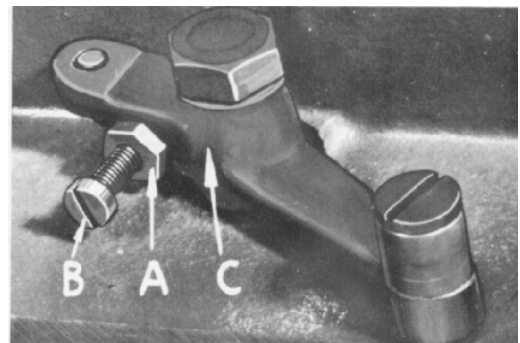
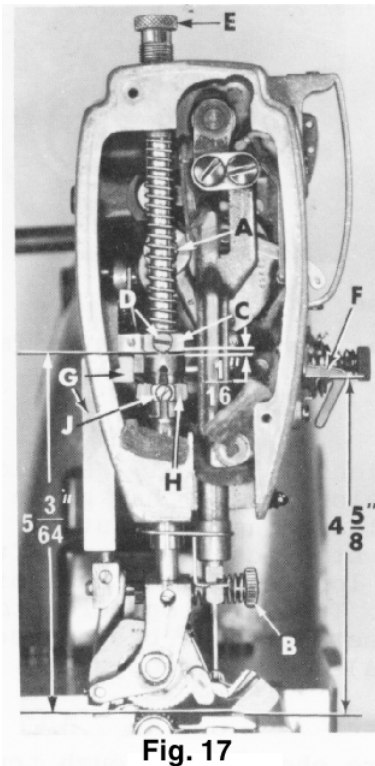

Fig. 16
Fig. 17
The presser spring (A, Fig. 17) should exert only enough pressure on the feed rollers to make the work feed uniformly. To increase the pressure on the presser foot, turn presser spring regulator (B, Fig. 17) in a clockwise direction.
When locating presser bar guide (C, Fig. 17) presser foot must rest directly against throat plate. Proper setting of guide is  $5 \frac{3}{64}$  inches between underside of presser bar guide and the top of throat plate (Fig. 17). To obtain this setting, remove pressure from the presser spring (A) and loosen set screw (D). Tap on presser foot to insure it is down against throat plate. Set guide to the  $5 \frac{3}{64}$  inch dimension, center foot by turning it so needle enters the middle of its slot and retighten screw (D). Apply pressure to top
Set needle thread pull-up bracket (F) so that underside of wire is  $4 \frac{5}{8}$  inches above throat plate (Fig. 17).
Presser bar connection (G, Fig. 17) should be set about  $\frac{1}{16}$  inch below presser bar guide (C). Accomplish this by loosening lock nut (A, Fig. 16), and relocating stop screw (B) on lifter lever bell crank (C), located at the back of machine, under bed plate. Turning stop screw to right or left, properly sets presser bar connection. Tighten lock nut (A) to lock stop screw.
Tension release should be set so as not release when sewing over seams or when presser foot is raised. Adjustment of tension release cam (H, Fig. 17) and in and out position of tension assembly are required for proper operation.
The tension release cam (H, Fig. 17) should now be positioned by loosening set screw (J) and then rising or lowering cam (H) to suit the sewing conditions. The average release point is between 1/4 and 5/16 inch of presser foot lift above the throat plate. Tighten tension release cam set screw securely.